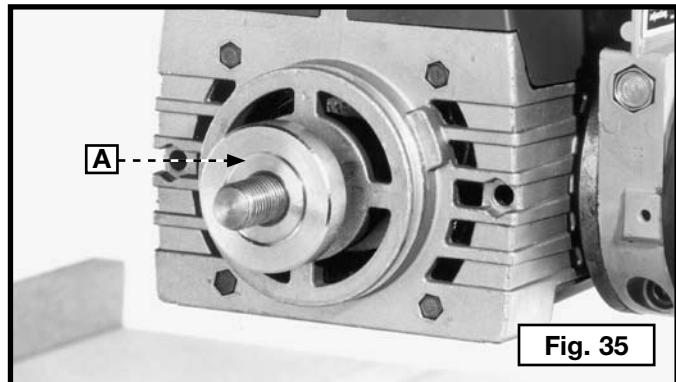

Fig. 35
- Attach the inside (thick) arbor flange (A) Fig. 35 to the arbor shaft with the recessed side of flange (A) facing out.